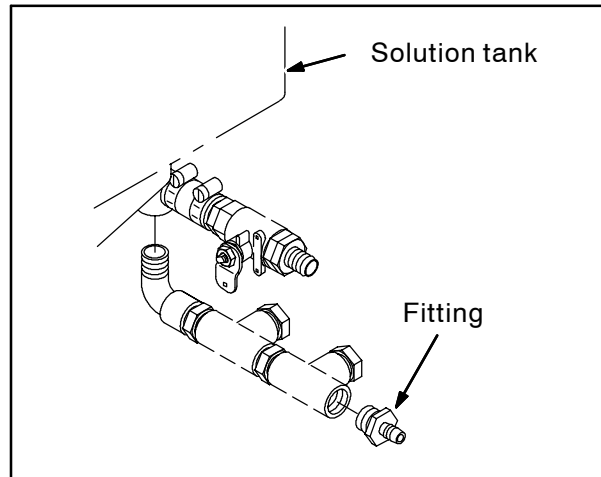

FIG. 3
3. Install the fitting onto the solution supply assembly. Refer to Fig. 3.